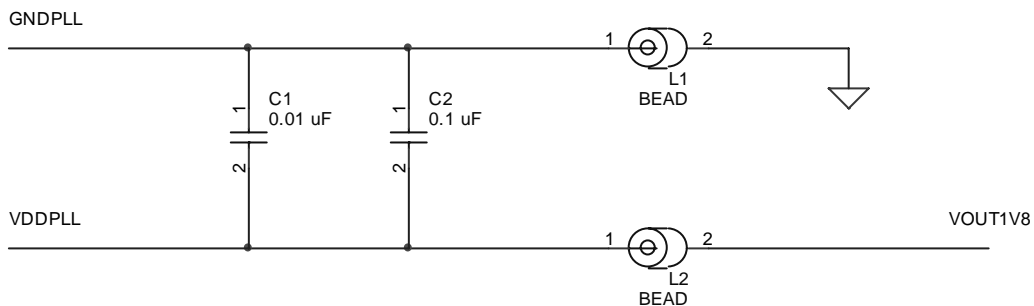

Figure 15. Connections for the PLL Pins
Connect the **VDDPLL** pin (25) to the **VOUT1V8** pin (27), with an associated chip ferrite bead, as shown in **Figure 15**. Connect the **GNDPLL** pin (26) to GND, with an associated chip ferrite bead. In addition, add stabilizing capacitors across the VDDPLL and GNDPLL pins. Place each capacitor directly adjacent to the PLL pins, on the top layer of the PCB.